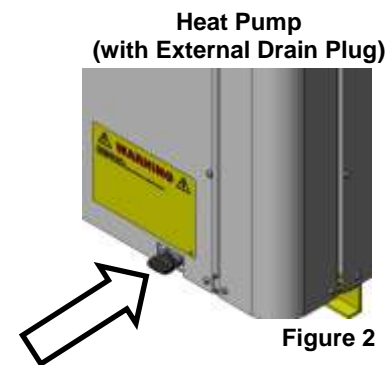

Figure 2
- a) Remove external drain plug. (see Figure 2)